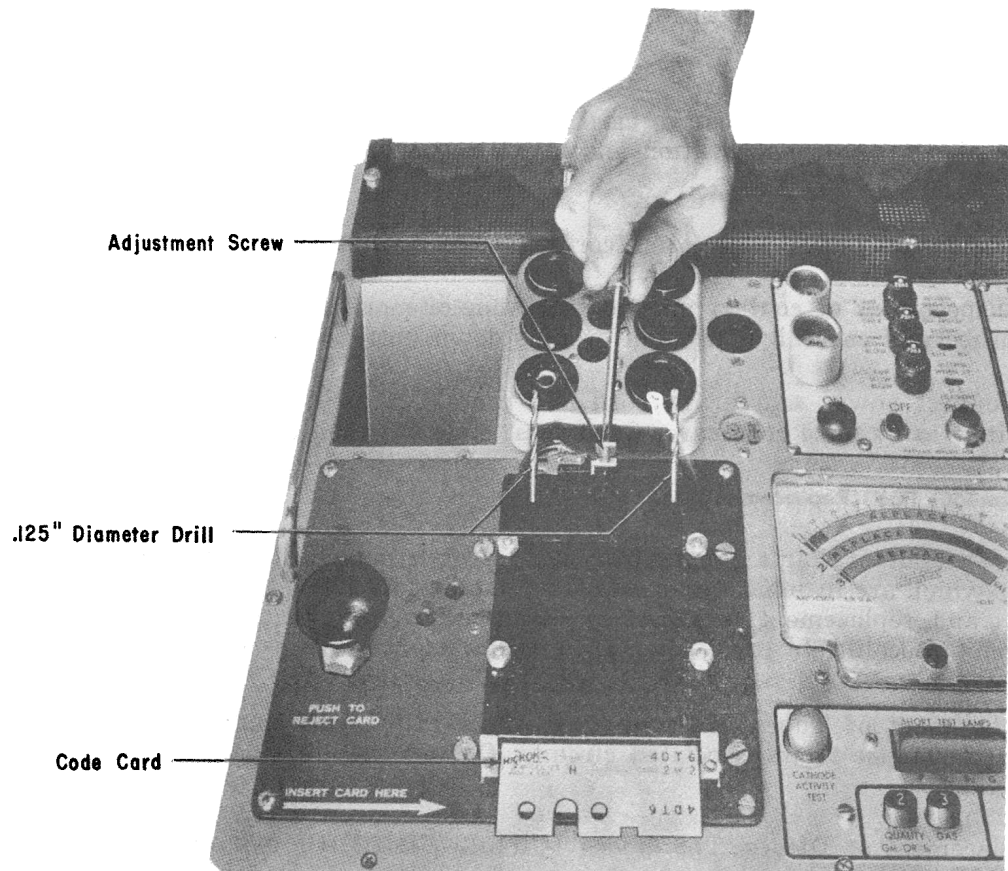

Figure 18. Adjustment of Upper Micro Switch
2. Insert two .125 inch diameter ($\frac{1}{8}$ inch diameter) pins or drill shanks into the switch plate holes A-1 and L-1 to retain the code card. (See Figure 18).
(see Figure 18) until the micro switch actuates (an audible CLICK can be heard).
2. Observe the code card holes through the row 1 holes in the top switch plate. The code card material should just disappear (.005 inch) at the top of the row 1 switch plate holes when the micro switch actuates (an audible CLICK will be heard). If adjustment is necessary, turn the adjustment screw. (See Figure 18) until alignment is correct.